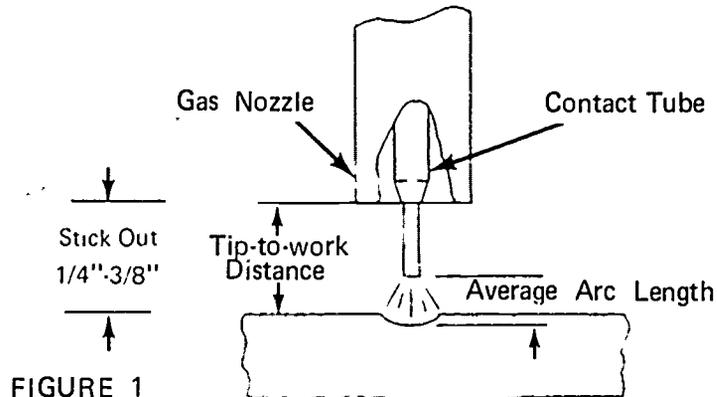

FIGURE 1
- C. Adjust stick out 1/4" to 3/8" and clean nozzle if needed (Figure 1)